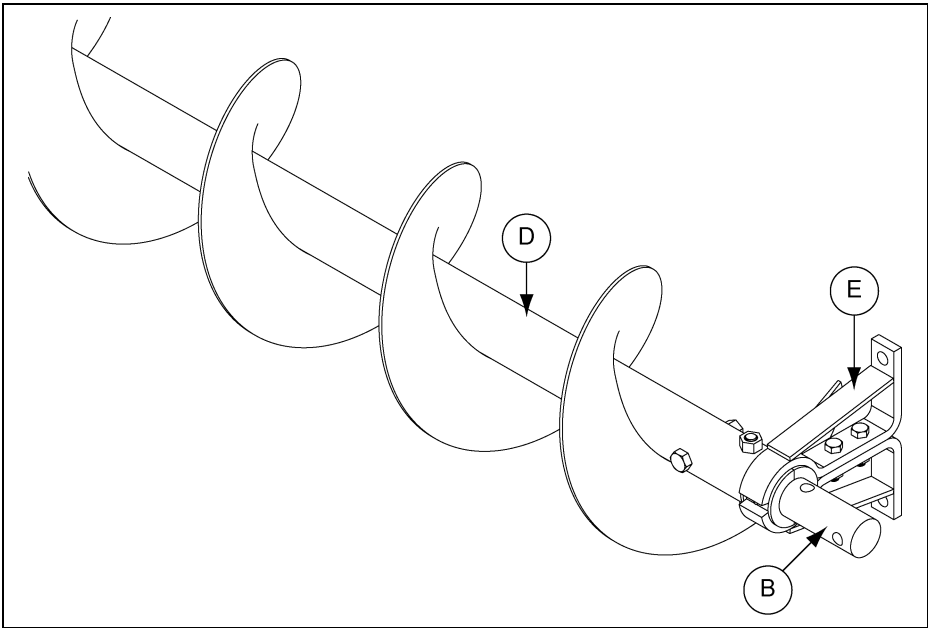

Figure 7S
3. Slide the hanger bearing (E) onto the connecting shaft (B) and tighten the hanger bracket bolts. (See Figure 7S.)